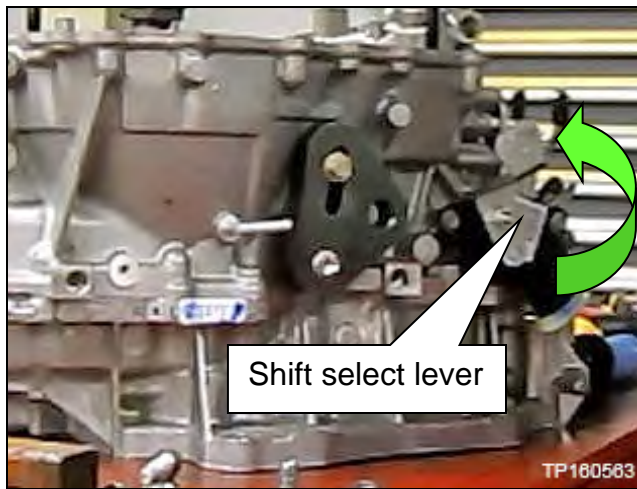
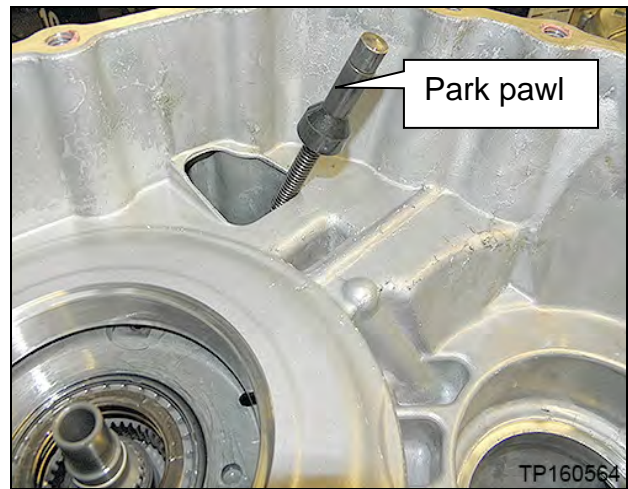

Figure 23F
Figure 24F
20. Rotate the shift select lever counter clockwise to the “L” range position (Figure 23F), so that the park pawl is at its lowest position (Figure 24F).